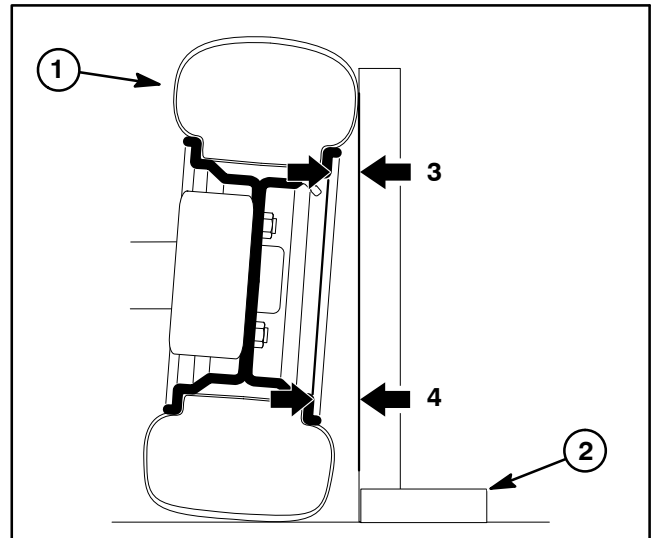
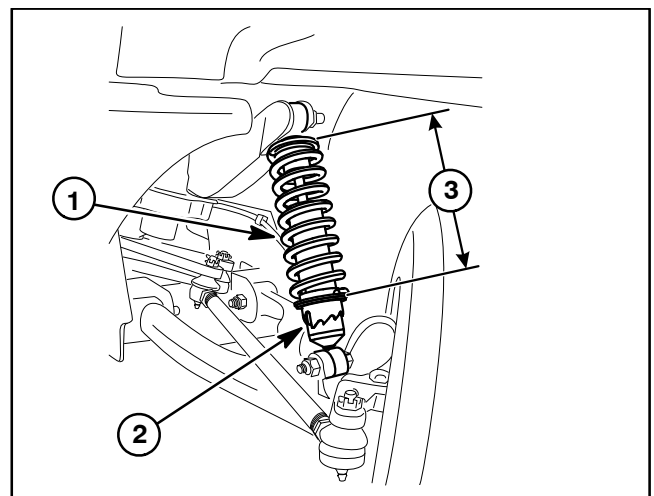

Figure 4
Figure 5
A. Place a 90° square on the ground with the vertical edge touching the face of the tire (Fig. 4).
B. From the same part of the rim, measure the distance from the top and bottom of the rim to the square. Record the two (2) measurements.
B. Use spanner wrench TOR6010 (see Special Tools in this chapter) to rotate shock absorber collar which changes the length of the shock spring (Fig. 5). If the bottom camber measurement was too short, rotate the collar to reduce the length of the shock spring. If the bottom camber measurement was too long, rotate the collar to increase the length of the shock spring.